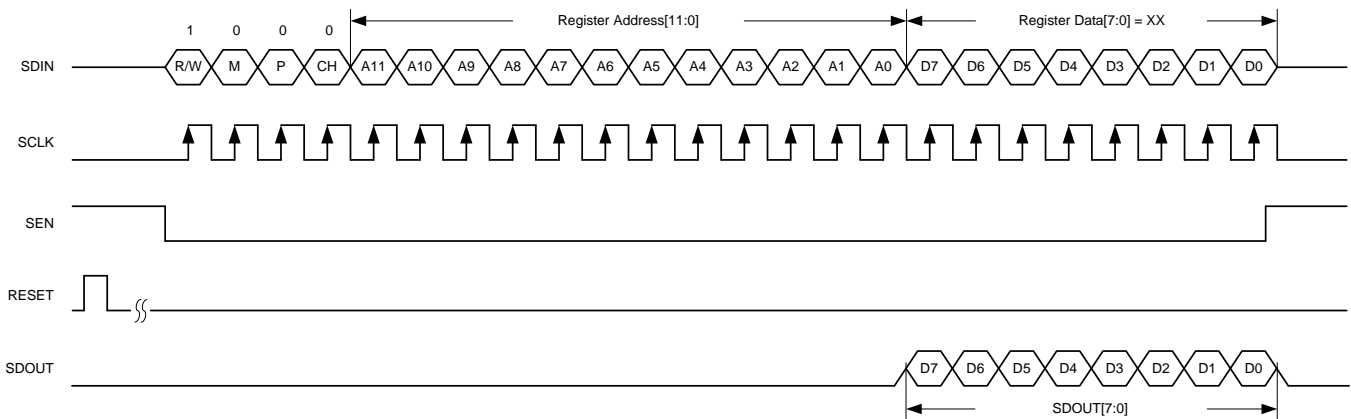
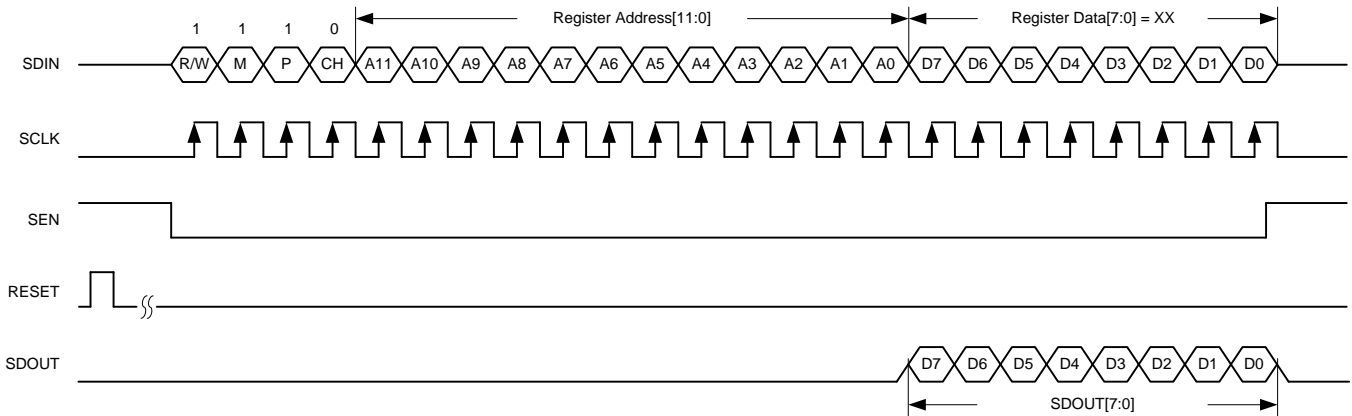
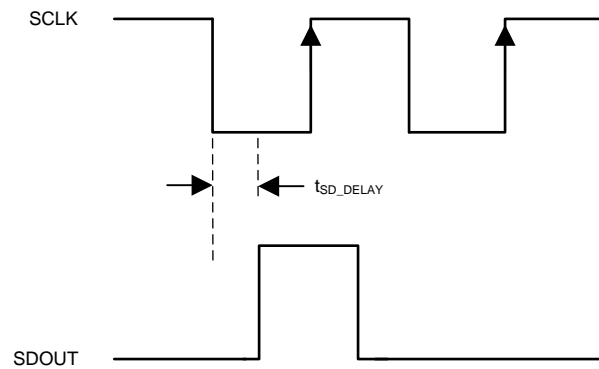

Figure 71. Serial Register Read Timing Diagram
Figure 74. JESD Serial Register Read Timing Diagram
Figure 75. SDOUT Timing Diagram
4. Reading back the register content on the SDOOUT pin, as shown in Figure 71. When a page is selected, multiple read backs from the same page can be done. SDOOUT comes out at the SCLK falling edge with an approximate delay (t_{SD_DELAY}) of 68 ns; see Figure 75.
4. Reading back the register content on the SDOOUT pin; see Figure 74. When a page is selected, multiple read backs from the same page can be done. SDOOUT comes out at the SCLK falling edge with an approximate delay (t_{SD_DELAY}) of 68 ns; see Figure 75.